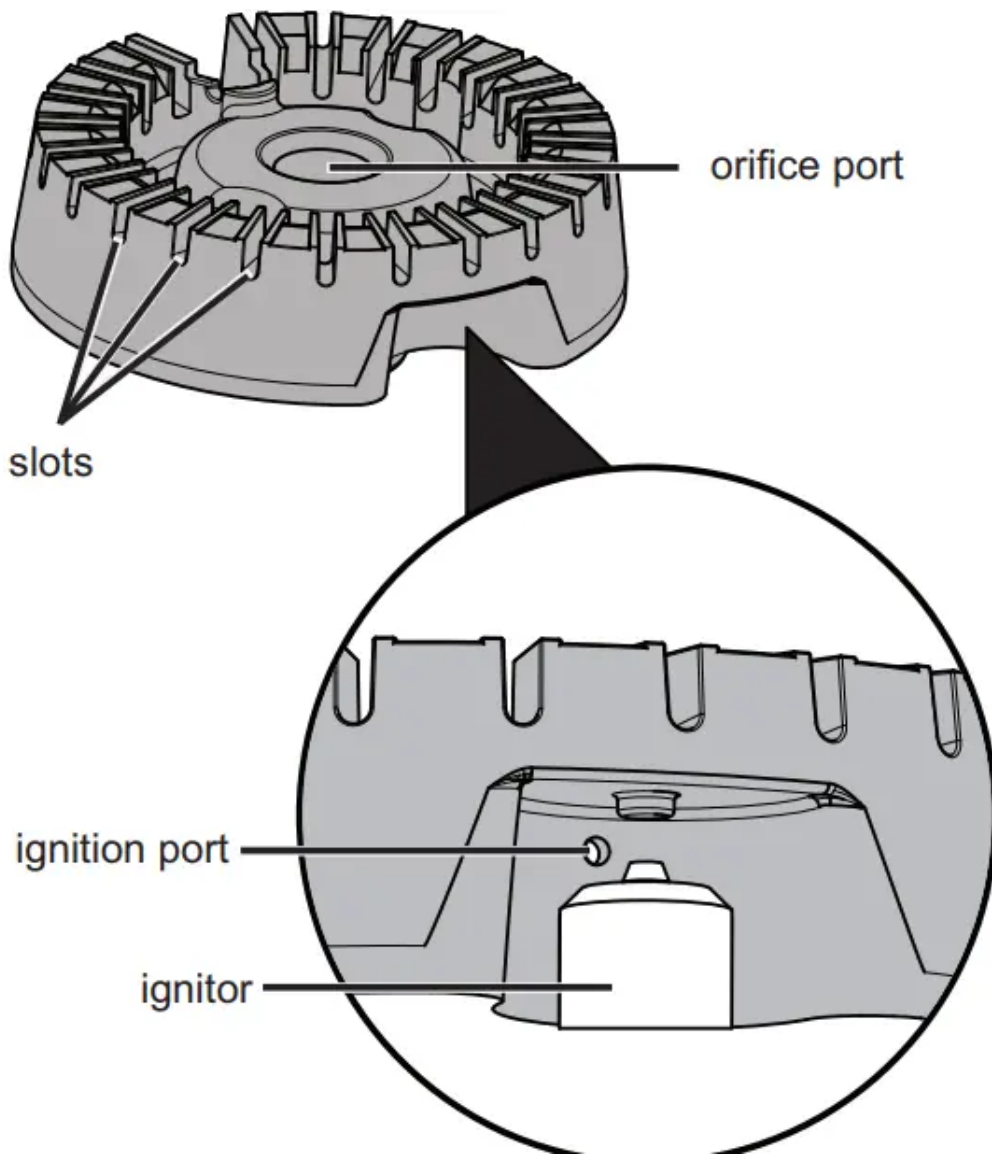

Figure 19: Sealed burner components
3. Use a toothbrush to clean all over the burner head (see Figure 19).
4. Use the toothbrush to clean the slots and holes in the burner (see Figure 19).
5. Use a needle or fine wire to clean out the ignition port see Figure 19).